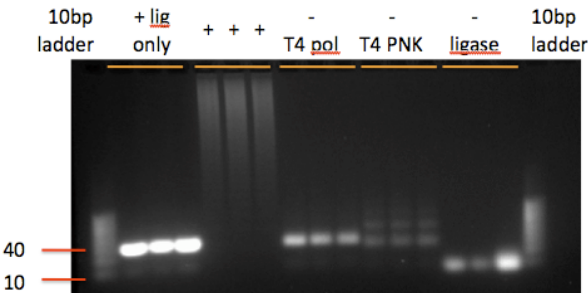

Figure 19: Troubleshooting the Failure of LM-PCR on Non-Captured Samples Using Different Positive and Negative Conditions by 4% Agarose Gel Electrophoresis
- A failure to “fill-out” will result in linker dimer formation during ligation. Since the gSel complex is 20bp, a 40bp product will be present upon complete ligation of a failed “fill-out” (Figure 19, - T4 pol, lanes 8, 9, and 10).
- A failure at the T4 polynucleotide kinase reaction step will leave the filled out ends with only a 5' phosphate on gSel4 (where it was synthesized) but not on gSel3. Hence, the ligation will not be effective since only one strand may be covalently linked by the ligase. Consequently, a ladder pattern will form with the most intense bands at 20bp with higher molecular weight bands fading out (Figure 19, - T4 PNK, lanes 11, 12, and 13).
- A failure at the ligation step will result in only 20bp products (Figure 19, - ligase, lanes 14, 15, and 16).
- A successful Sequence Capture library should result in a 20bp ladder pattern with the most intense bands near the top of the gel, and fading at the bottom (Figure 19, +++, lanes 5, 6, and 7). If the agarose gel resembles lanes 5, 6, and 7, the library construction reagents are working properly.
5. Replace library construction reagents based upon which set of lanes your reactions most resemble. If the lane for the test sample looks like the lane for the enzymatic negative control sample, replace all library construction reagents. If the lane for the test sample resembles lanes 5, 6, and 7 (Figure 19, +++), the LM-PCR reaction should be suspected as the cause for failure.